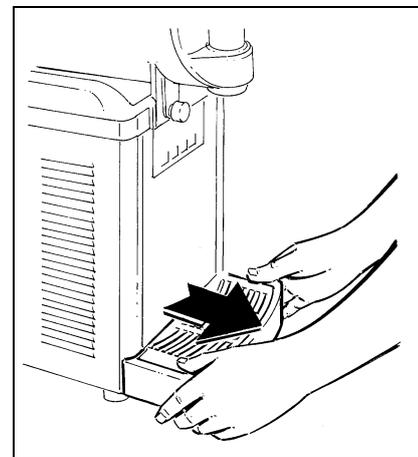

Fig. 10
- **R**emove the drip tray by pulling it outward (fig.10).